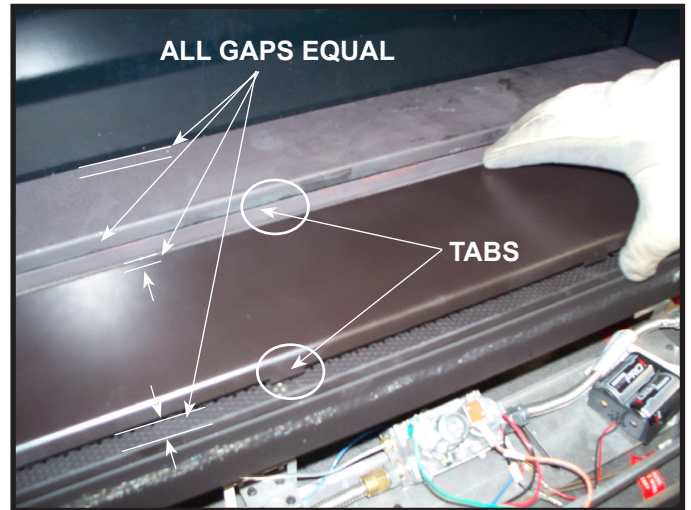

Figure 4. Placing Base Pieces.
1. Install rear inside base piece. Position piece into bottom of fireplace with tabs facing the burner. Center piece from front to back. There will be a gap between the front edge of the base piece and the burner area and also a gap between the back of the base piece and the rear firebox panel. These two gaps should be equal. See Figure 4.
2. Install front inside base piece. Position piece into bottom of fireplace with tabs facing the outside edge of the firebox. Center from front to back. There will be a gap between the front edge of the base piece and the front of the firebox and also a gap between the back of the base piece and the burner rail. These two gaps should be equal. See Figure 4.